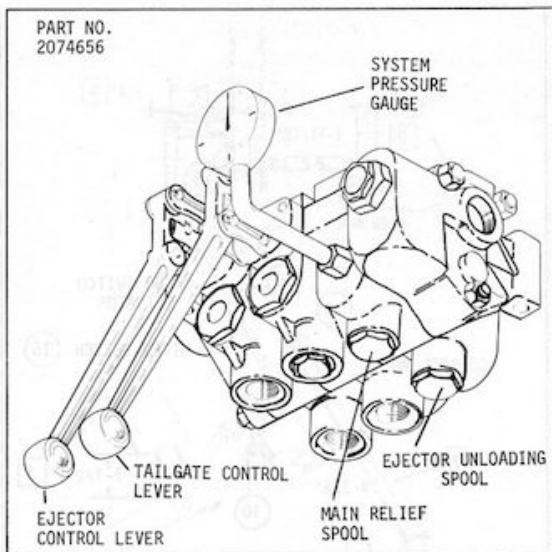

Figure 3-7. Control Valve Assembly
a. Remove 3/8" pipe plug from unloading section and install a gauge. (See figure 3-7.)
3-7. Ejector Unloading Valve System. (See figure 3-7).
To adjust regeneration valve, install pressure gauge in the unloading section per Items 3-6, see Figure 3-7.
b. To adjust the unloading valve cartridge, insert pressure gauge in gauge port as shown in Figure 3-7. Remove adjusting screw cap. Turning the adjusting screw "IN" will increase the pressure and the reverse procedure will lower the pressure. Start engine and engage P.T.O. and solenoid switch, lower the packing mechanism to the loading sill.
(b) Ejector unloading spool stuck closed. See Figure 3-7	(b) Clean